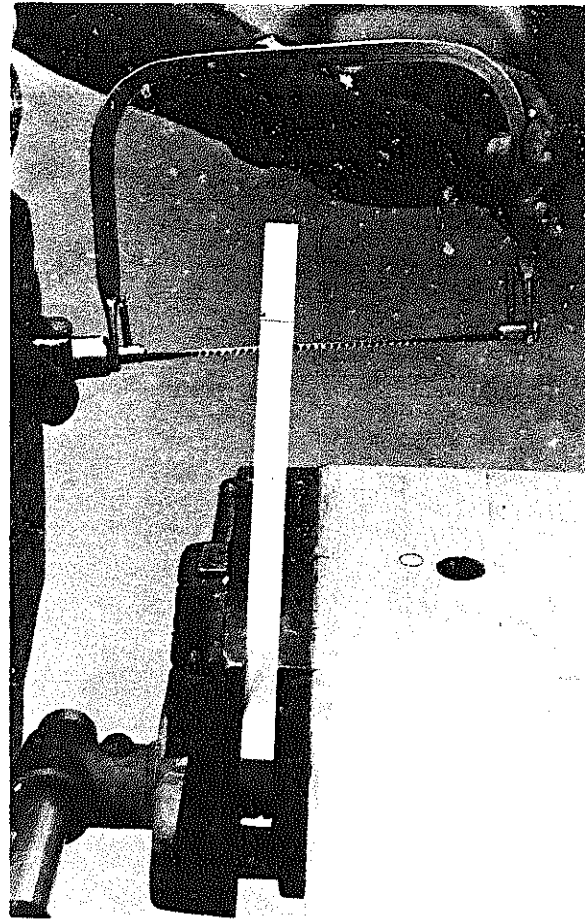
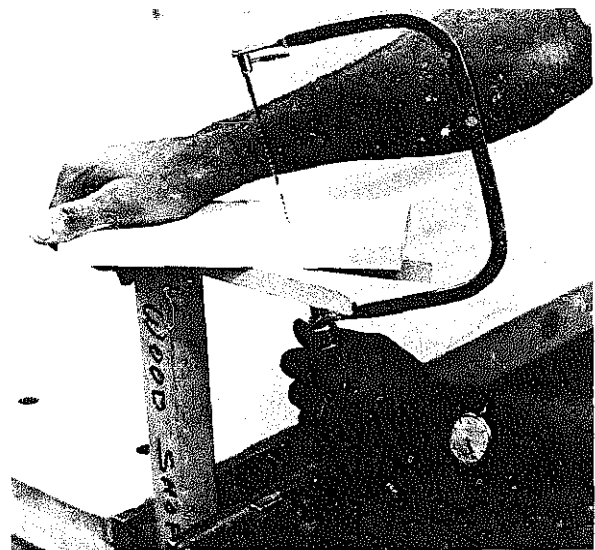

Fig. 6-17 Using a coping saw with the work held in a bench vise.
Fig. 6-18 Support for cutting curves in thin material.
The blade can be put in the frame with the teeth pointing toward or away from the operator. The direction is determined by the type of cutting to be done and the type of holding device to be used for supporting the work. If a v-block arrangement is used (see figure 6-18), the blade is put in with the teeth pointing toward the handle. If the work is to be held in a vise, figure 6-17, or supported on a saw horse, the blade is put in with the teeth pointing away from the handle. The pressure applied to get the cutting action is in the direction in which the teeth point.
3. Start the cut with a forward stroke to avoid splintering the face. If the cut is to start on a sharp corner, notch the starting point with a knife so that the cut starts easily. The beginning strokes should be short and light to avoid buckling the blade. This also allows the blade to make a kerf. Both hands can be used to guide the saw as shown in figure 6-17.
When curves are to be cut in thin material, the support arrangement shown in figure 6-18 is desirable. The work, rather than being fixed, is gradually moved so that the guideline at the point of cutting falls within the v-cutout of the support. For this type of cutting, the blade is inserted with the teeth pointing toward the handle. Note that one hand is used to hold the work down and that the blade is held in a vertical position in relation to the surface of the work. Cutting with the saw in a straight up-and-down movement helps to lessen binding and buckling. Always face in the direction of cutting. This assures better control of the saw and avoids awkward cutting positions.